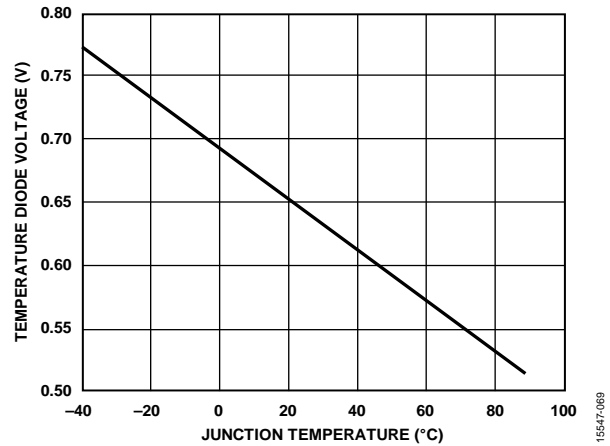

Figure 74. Typical Voltage Response of the 1x Temperature Diode
4. Set Register 0x18E6 to 0x01 to turn on voltage export of the central 1x temperature diode. The typical voltage response of the temperature diode is shown in Figure 74. Although this voltage represents the die temperature, it is recommended to take measurements from a pair of diodes for improved accuracy. The following step explains how to enable the 20x diode.